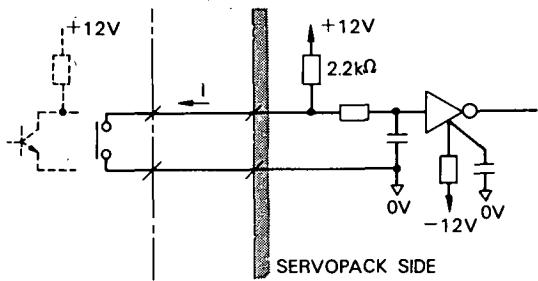

Fig. 6.3 Input Circuit (1)
Fig. 6.3 shows input circuit (1) to (4) above.
The configuration of input circuit is the same as Fig. 6.3. However, input filter constant differs from it. Driving by line driver cannot be accomplished. Reverse function of effective logic is not available.